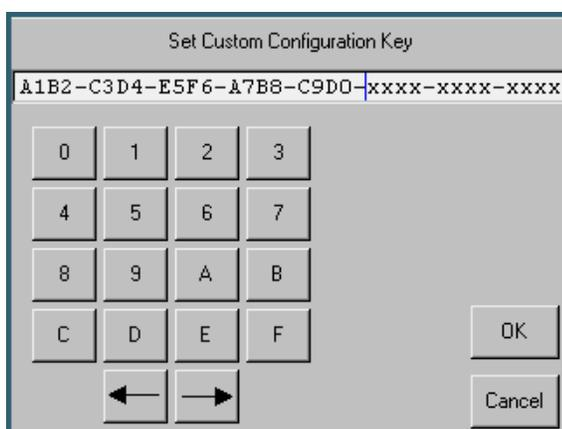

Figure 9-2: Set Custom Configuration Key Screen
4. Using the alphanumeric keypad, enter the 32-character capacity upgrade **key code**, then click **OK** (Figure 9-2).